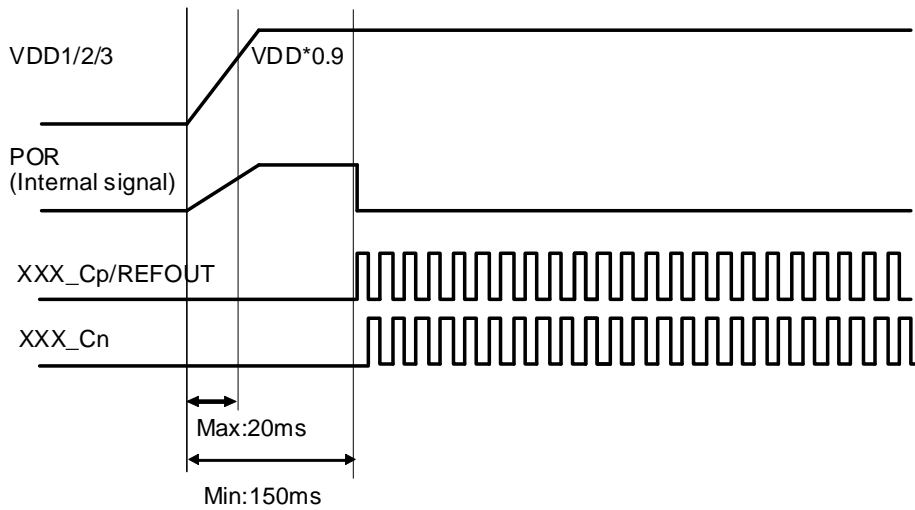

Figure.4 Recommend Power On Reset Sequence
(5) Refer to Figure.4 on Power On Reset sequence